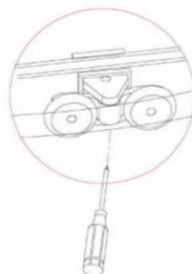

Fig 12
18. Check whether the sliding door (7) opens smoothly and check whether the magnetic profile (17) contacts the other magnetic profile over the full length. When necessary, adjust the tandem rollers (8), as shown in figure 12.